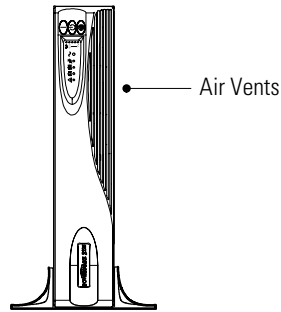

Figure 7. Pedestals with One Cabinet
4. Carefully position the cabinet upright with the air vents at the top (see Figure 7).